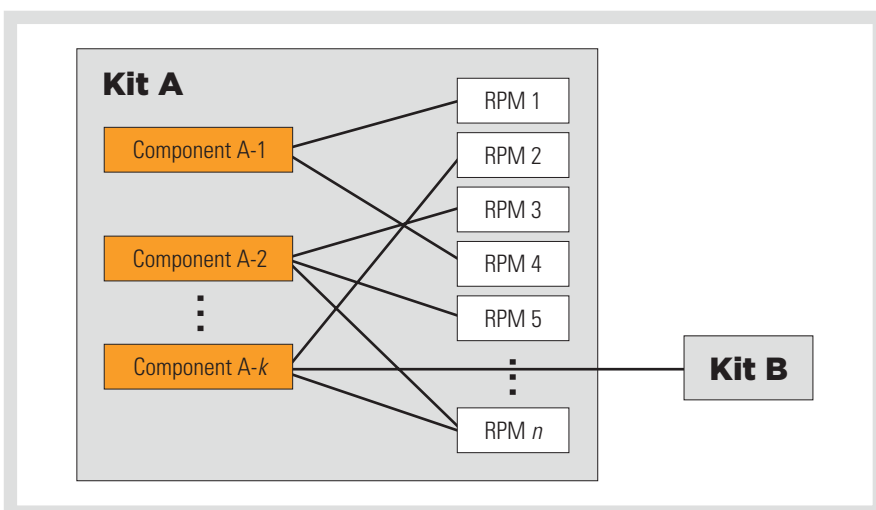

Figure 2. Example Kusu kit framework
- **Kits:** To help ease the installation of different components, the Kusu framework packages different software components into kits. A kit may contain Red Hat Package Manager (RPM™) packages, scripts, applications, or services that must be installed on compute nodes, and includes meta-RPM components with configuration scripts and dependency information. Administrators can install kits from an ISO image or a mount point. Figure 2 shows an example of a kit framework.